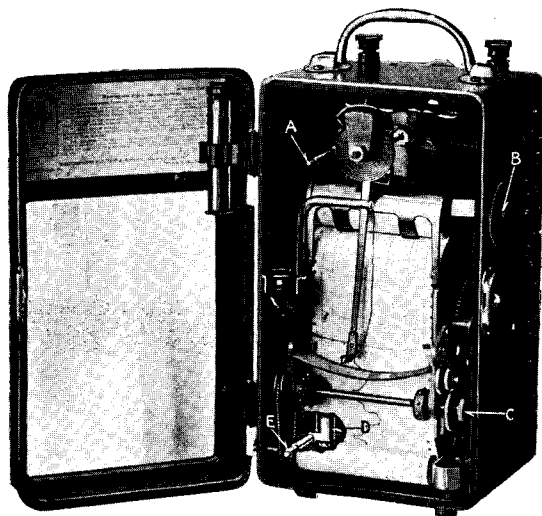

Fig. 2—Type U Graphic Voltmeter, Open
15. **The dashpot** shown at *D* in Fig. 2 consists of an oil cup and piston for damping the swing of the movable element. To remove the oil cup, release the clamp screw *E* by means of the clock key and pull out the oil cup from below the base. Fill the cup to within $\frac{1}{16}$ -inch of the top with average machine oil or transformer oil, and replace. Avoid forcing the oil cup in too suddenly, and see that the piston clears the sides properly. This can be tested by moving the pen arm slowly by hand while replacing the cup, thus detecting any interference.
If the clock fails to run at all, disconnect the paper-driving cylinder by loosening the knurled nut *C*, Fig. 2, and observe whether or not the balance wheel operates freely and whether the escapement ticks loudly and regularly. If the clock continues to run perfectly with the paper roll disconnected, the stopping is due